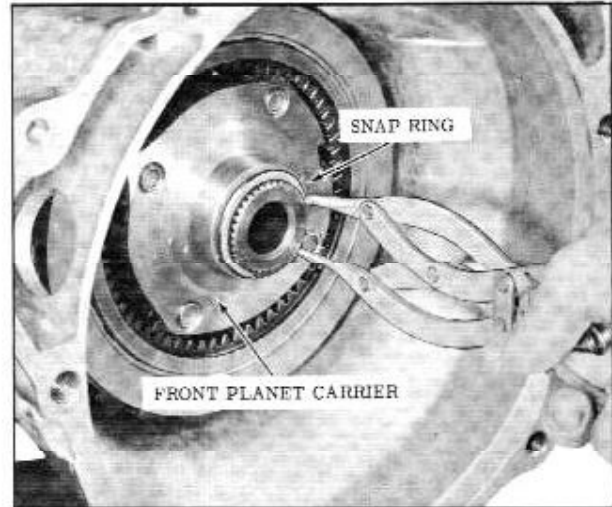

Figure 3-46 Removing Snap Ring
1. Remove front carrier to carrier shaft snap ring. (Fig. 3-46)